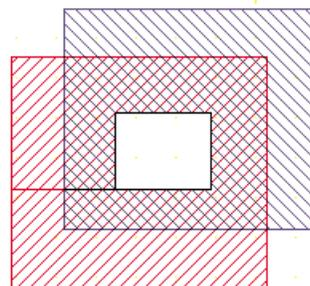

Figure 4. Resulting shapes.
- 1.6. Run Tools>>Merge Selected command, to obtain the result at Figure4.